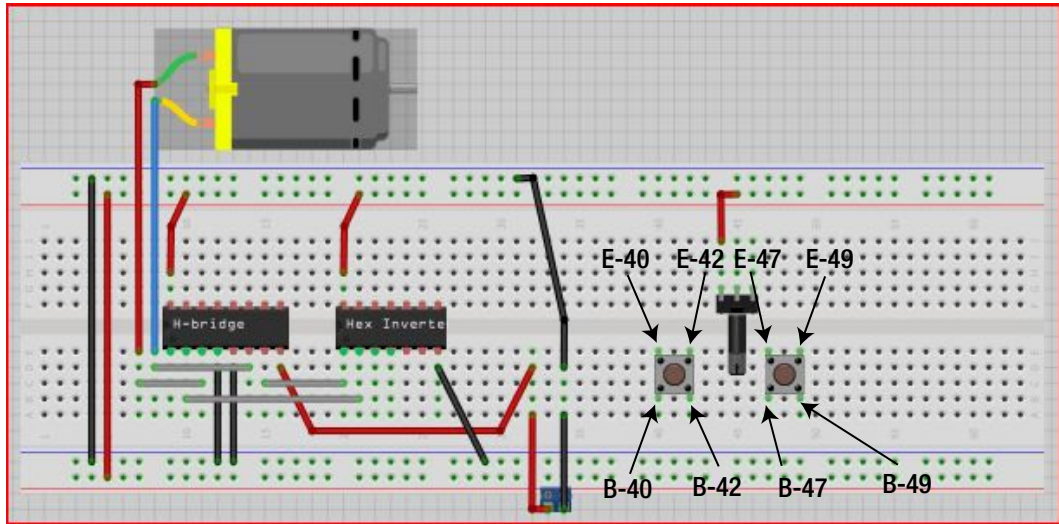

Figure 15-12. Attach the push buttons to the solderless breadboard
18. Now add the two push buttons to the breadboard. Insert the first one so its pins plug into B-40 and B-42 and E-40 and E-42. Insert the pins of the other push button into B-47 and B-49 and E-47 and E-49. Figure 15-12 illustrates this process.